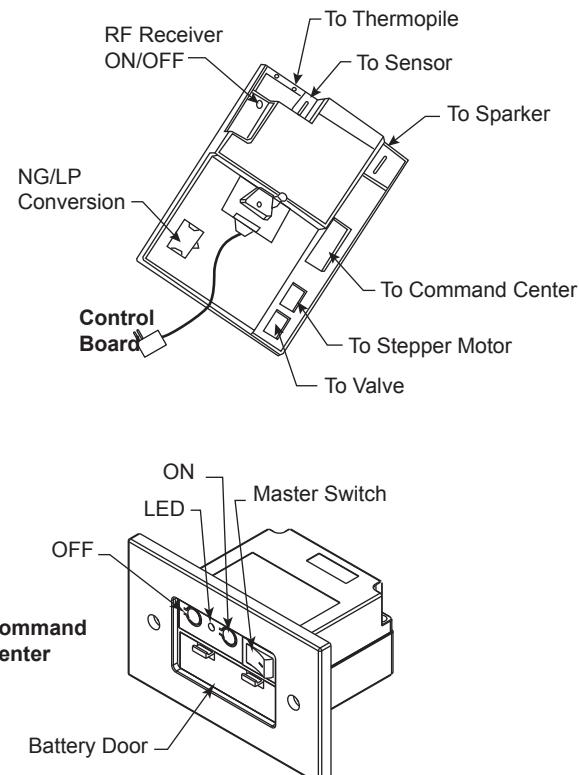

Figure 58 -
1. The RF receiver button located on the Control Board must be in the on position before the learn function can begin. Use paper clip to depress button. One beep for RF receiver ON or two beeps for RF receiver OFF will be given as confirmation. Refer to Figure 58 for location.